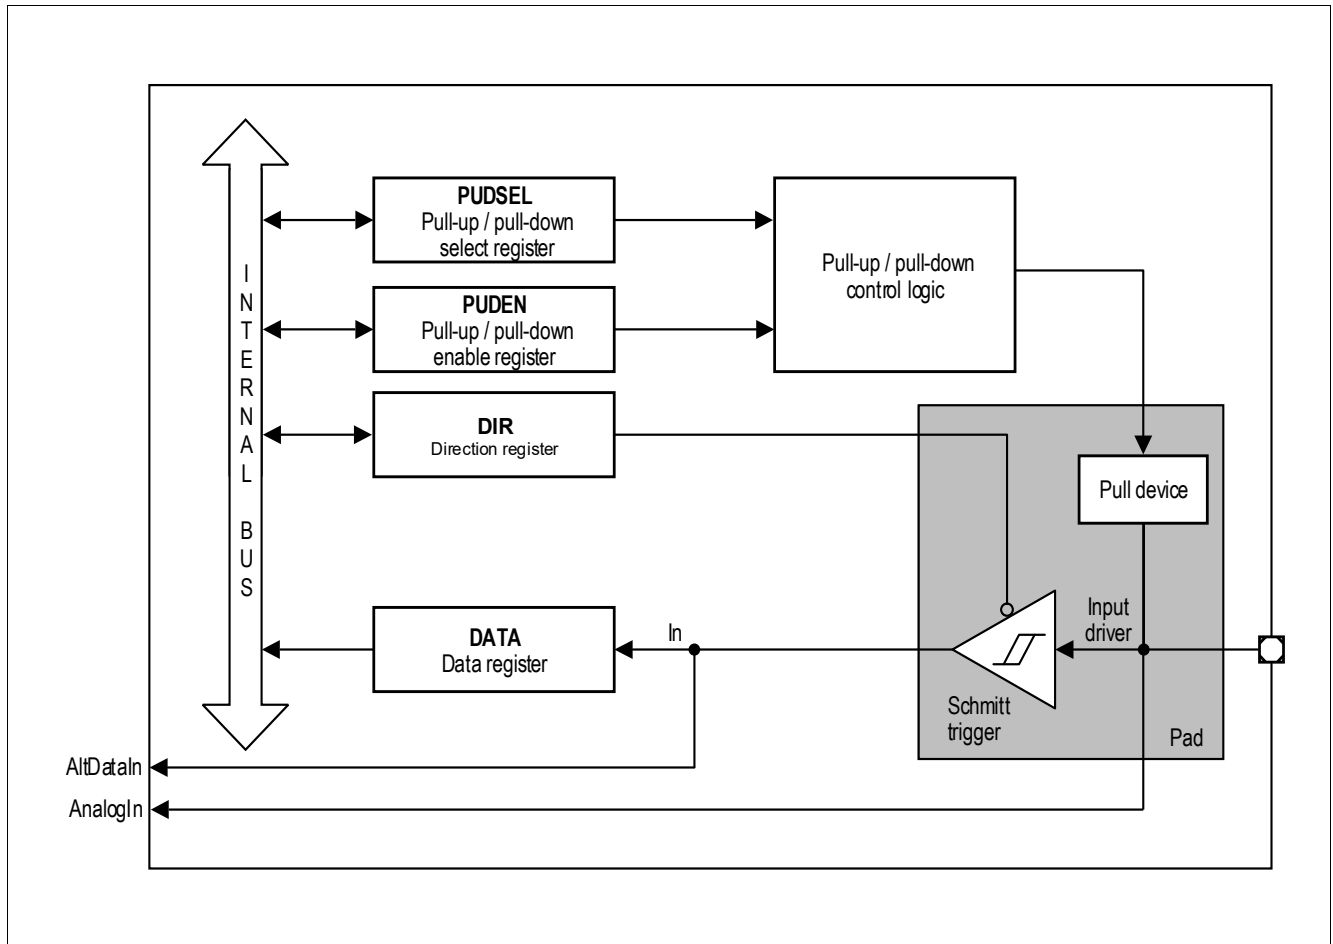

**Figure 16** General structure of a bidirectional port (P0, P1)
**Figure 16** shows the block diagram of a TLE9867QXW20 bidirectional port pin. Each port pin is equipped with a number of control and data bits, thus enabling very flexible usage of the pin. By defining the contents of the control register, each individual pin can be configured as an input or an output. The user can also configure each pin as an open-drain pin with or without an internal pull-up/pull-down.